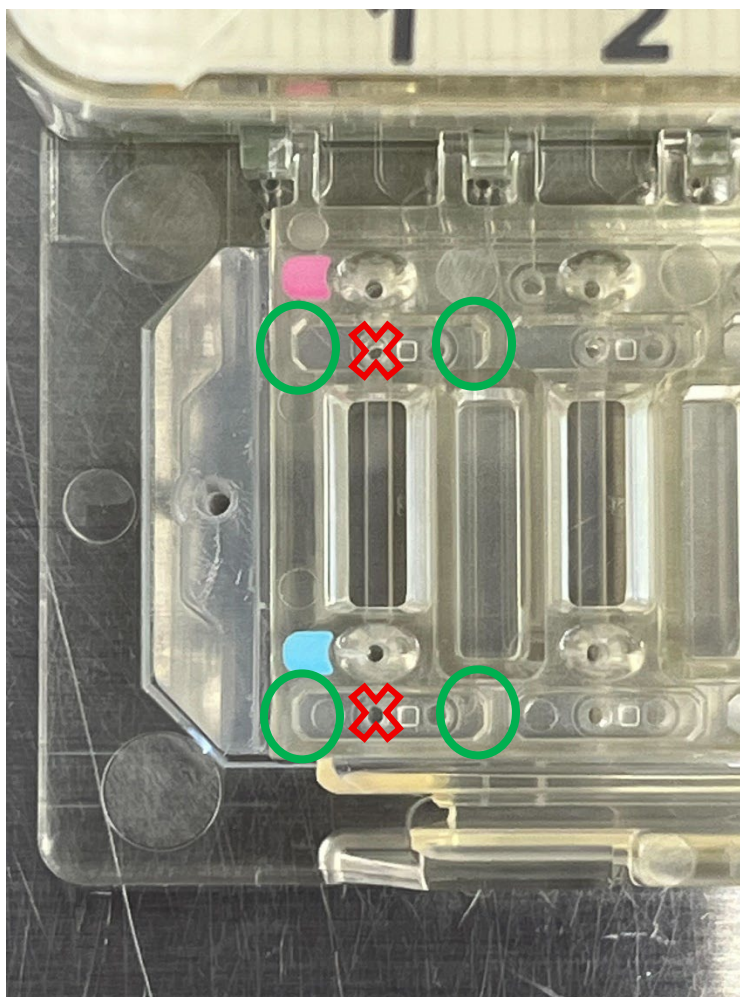

Figure 7. Proper placement of tip when aspirating from trough.
5. If aspirating liquid from the troughs, users must avoid touching the port in the trough, as this will aspirate the liquid that is in the Emulation channels. It is recommended for users to place their aspirating tips along the left or rightmost walls of the trough that is being aspirated. See Figure 7 for proper placement of tips when aspirating from troughs.